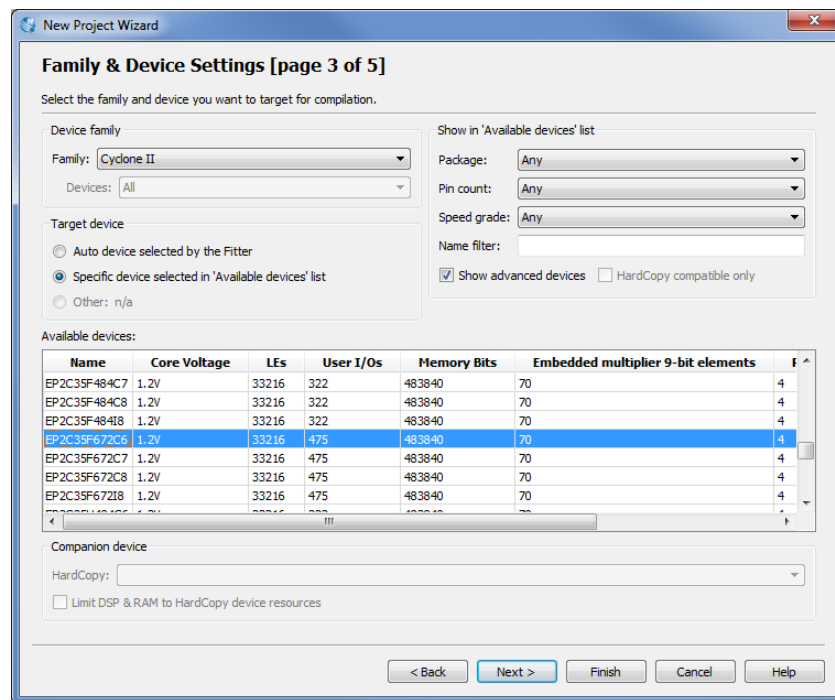

Figure 7. Choose the device family and a specific device.
3. The wizard makes it easy to specify which existing files (if any) should be included in the project. Assuming that we do not have any existing files, click **Next**, which leads to the window in Figure 7.